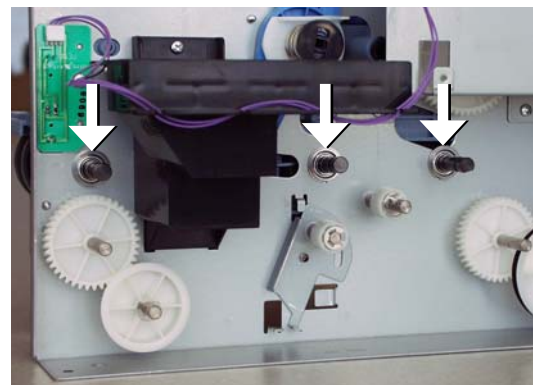

Figure 5-110 Bushing Removal
6. Remove three bushings as shown in Figure 5-110.